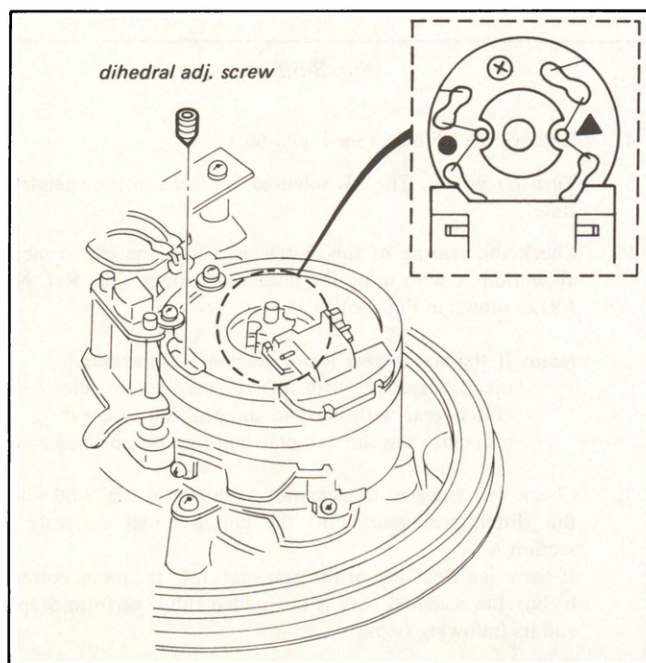

Fig. 3-56.
- When the dihedron is no-good, the preparation of the video head dihedron adjustment is to install two dihedron adjusting screws in the holes close to the small mark (●) shown in Fig. 3-56 and tighten them until the screw heads are level with the top surface of the video head disk. (If the screws are not tightened until their heads become level with the surface, the upper drum of the video head disk is caught by the adjusting screw heads and the video head disk cannot rotate. If the screws are tightened excessively, the head base is moved and the dihedron distortion becomes larger.)